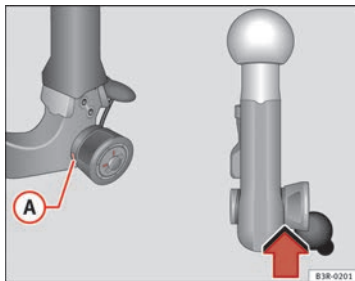

Fig. 171 Removable towing bracket: Safety check
- Check that the green marking **A** ⇒ Fig. 171 on the knob is inside the black zone marked on the ball joint.